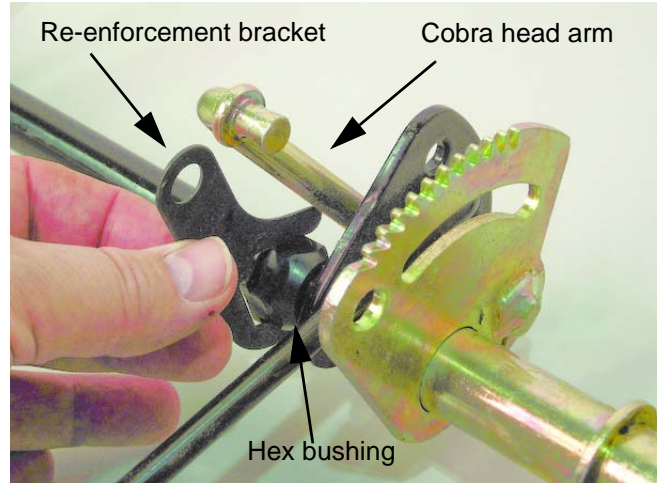

Figure 5.28
2. Examine the re-enforcement bracket between the cobra arm and pedal shaft for damage and replace if necessary. See Figure 5.28.